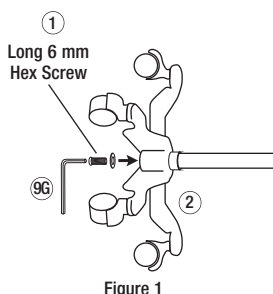

Figure 1
1. With base on its side connect upright outer pole to base using the long 6 mm hex screw and washer. Tighten with the large hex key provided. Tighten hardware as securely as possible. (To prevent loosening, periodically check that hardware remains securely tightened.) Reposition base upright. (Figure 1)